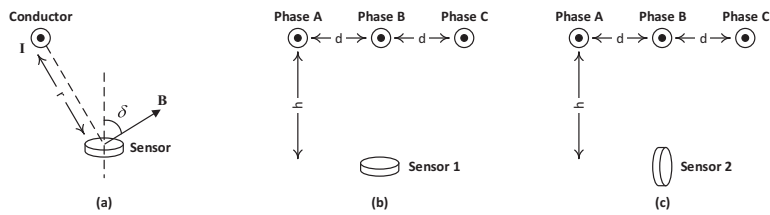

Figure 2.36 Measuring magnetic field strength of conductors in Exercise 2.3.
- 2.3** The relationship between current I and magnetic field strength B that is measured by a non-contact current sensor in Figure 2.36(a) is expressed as $B = \mu_0 I \cos(\delta) / 2\pi r$. Suppose the same sensor is installed on the ground [138], underneath a *balanced* three-phase transmission line in two configurations, as shown in Figures 2.36(b) and (c). Let B_1 and B_2 denote the strength of the magnetic field that is measured by the sensor in each case.